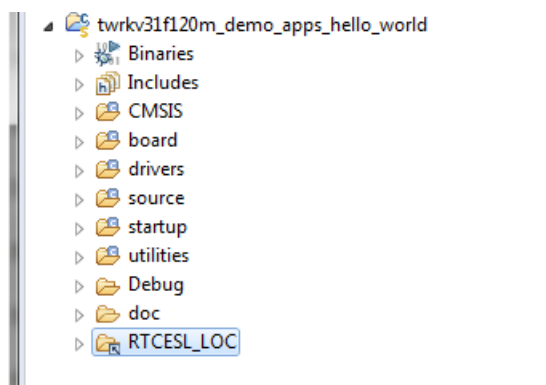

Figure 1-5. Projects libraries paths
5. Click Finish, and the library folder is linked in the project. See Figure 1-5.